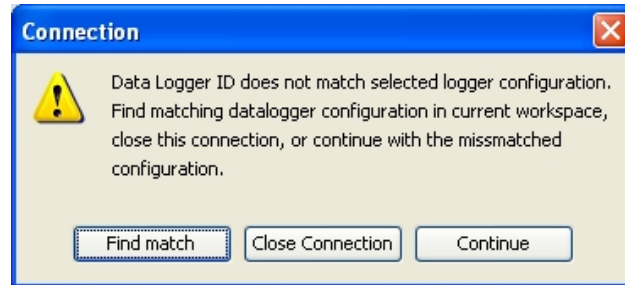

Figure 17 - Datalogger Connection Mismatch
- 2) When connecting to a new datalogger for the first time, the message shown in Figure 17 may be displayed after a few seconds. This is normal and is only an indication that the datalogger does not match the configuration created in the Project Explorer. Click on “Continue” to finish connecting to the datalogger.